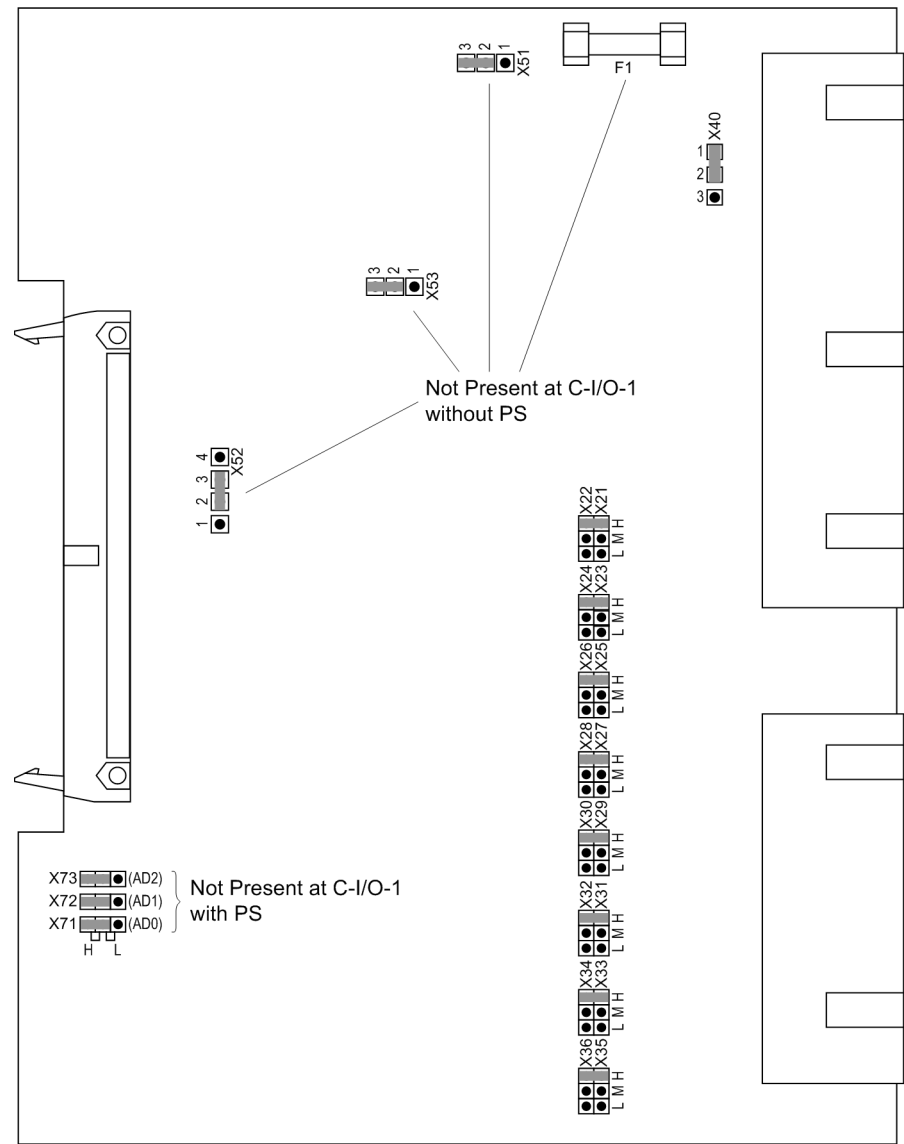
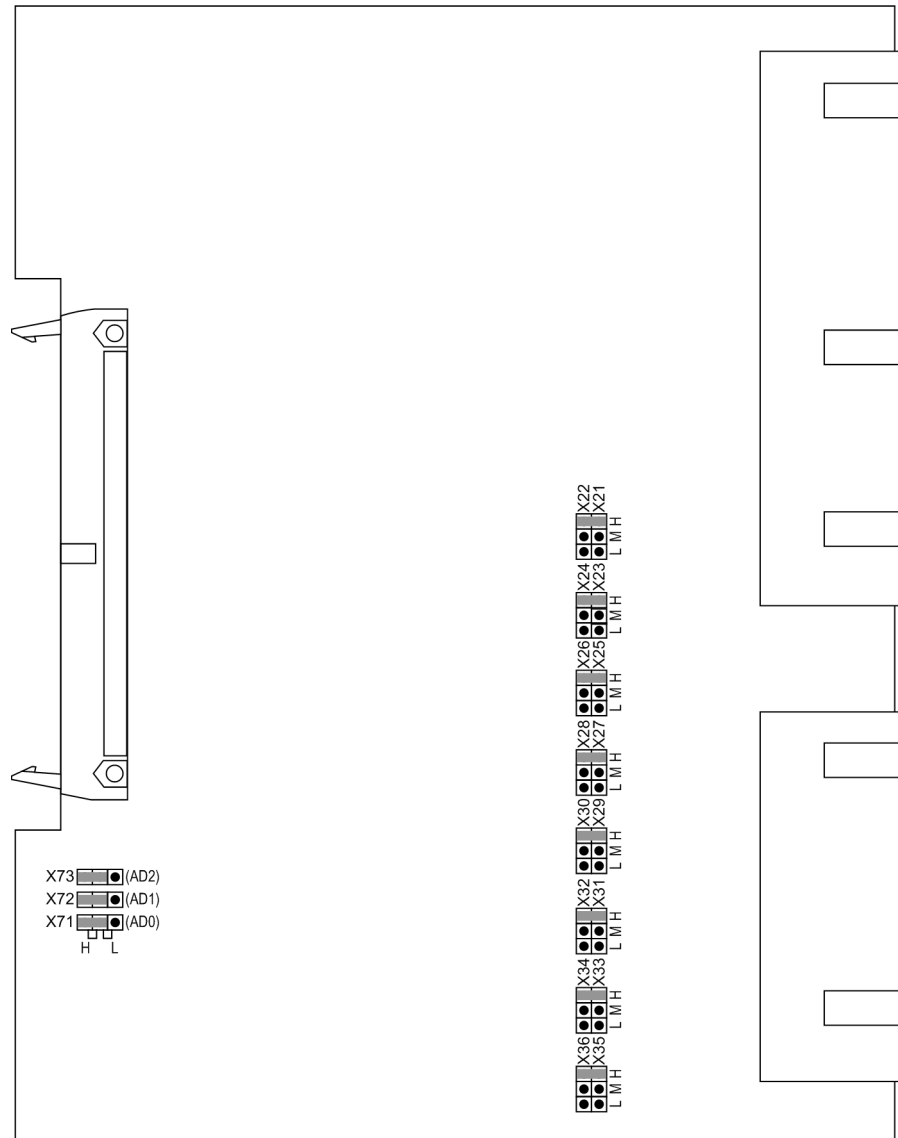

Figure 3-5 Input/output board C-I/O-1 with representation of the jumper settings required for the board configuration
Figure 3-6 Input/output board C-I/O-10 with representation of the jumper settings required for the board configuration
- Check the jumpers according to Figures 3-5 to 3-7, 3-9 to 3-11 and the following information. Change or remove the jumpers if necessary.
The layout of the PCB for the input/output board C-I/O-1 is shown in Figure 3-5, the PCB for the input/output board C-I/O-10 is shown in Figure 3-6.